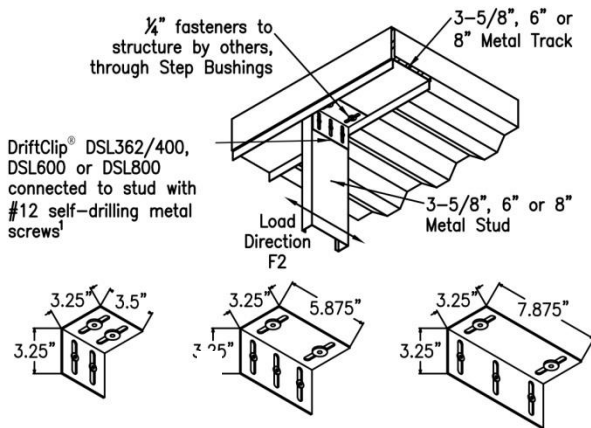

Figure 8 – DriftClip® DSL362/400, DSL600 and DSL800
3.3.4 DriftClip® DSL: DriftClip® DSL362/400, 600 and 800 are L-shaped angles that connect 3⁵/₈ or 4, 6 and 8 inch deep (92 or 102, 152, and 203 mm) exterior curtain wall steel studs, respectively, at the head of wall to the building's structural frame while allowing for a maximum of 2 inches (51 mm) of vertical, and horizontal movement between exterior wall elements and the primary structure. The minimum base-metal thickness of the clips is 0.0966 inch (2.5 mm). The two legs of the DriftClip DSL362/400, 600 and 800 connectors are equal in length, and each has two or three slots perpendicular to the heel of the angle, each 3/8 inch (9.5 mm) wide by 2³/₈ inches (60 mm) long. The leg that is fastened to the curtain wall stud has bushings designed for #12 self-drilling/self-tapping steel screws installed in the center of each slot. The other leg, which is fastened to the structure, has bushings designed for 1/4 inch diameter (6.4 mm) fasteners installed in the centers of the slots. Refer to Figure 8 for overall dimensions of each DriftClip DSL connector and a typical installation detail.